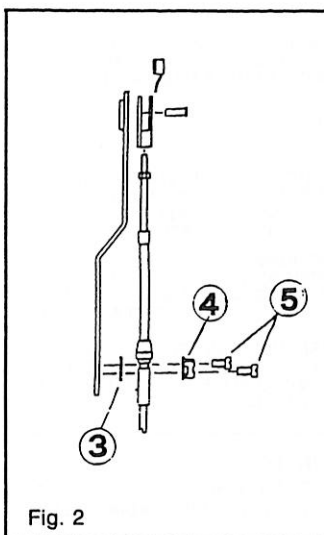

Fig. 2
4) **INSTALLAZIONE DEI CAVI** (fig. 2)
4) **MOUNTING OF THE CABLES** (fig. 2)
4) **INSTALLATION DES CABLES** (fig. 2)